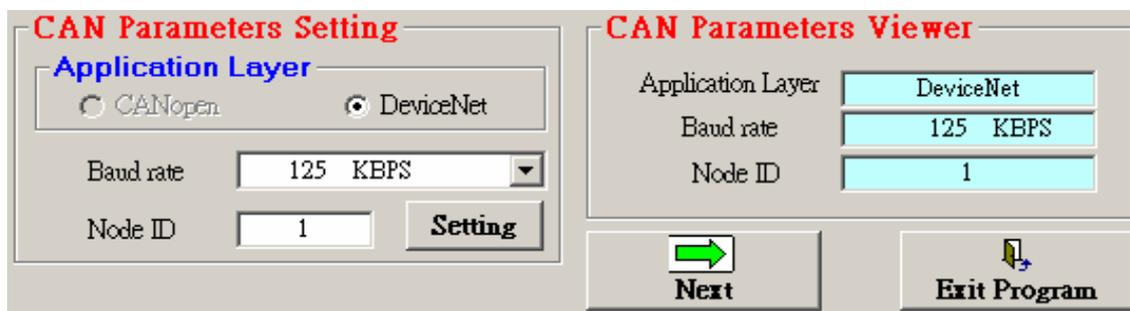

Figure 6-20. “CAN Parameter Setting & Viewer”
Step 6: Click the “CAN Bus” button, , so that the CAN bus configuration information will be given. Then, users can set the necessary CAN bus communication information. Afterwards, click the “Setting” button to finish the CAN parameter setting. The CAN Parameter Viewer frame on the right hand side indicates the parameter setting result. After clicking the “Setting” button, users can see that the each field value of the CAN Parameter Viewer frame is changed to the value configured in the CAN Parameter Setting frame on the left hand side as figure 6-20.